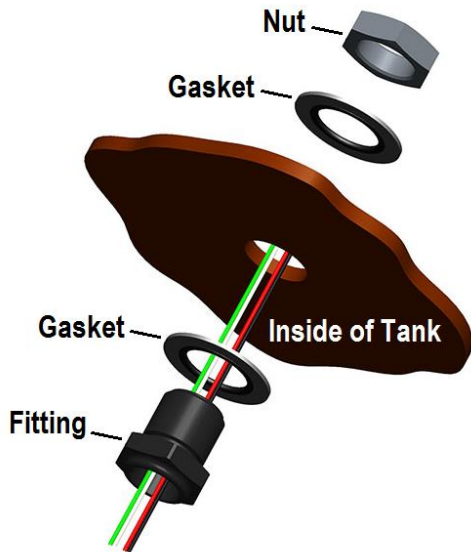

Figure 1
4. Put the bulkhead (including the gasket) through from the inside of the tank (**Figure 1**).